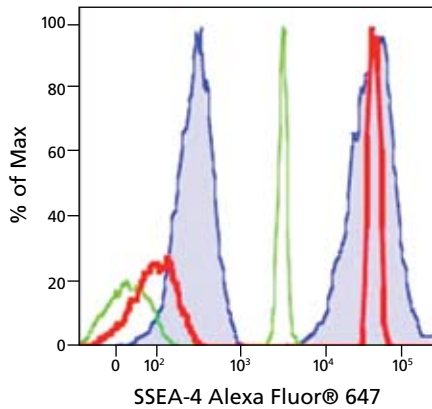

Figure 7. Live H9 hESCs (blue), standard BD CompBeads (3 μm) (green), or BD CompBeads Plus (7.5 μm) (red) stained with SSEA-4 Alexa Fluor® 647.
- BD now offers BD CompBead Plus particles, which are optimal for compensating experiments with larger cell types, for example, human embryonic stem cells (hESCs). These 7.5- μm beads have forward scatter properties better suited for compensating larger cell types than the standard BD CompBeads (Figure 7).